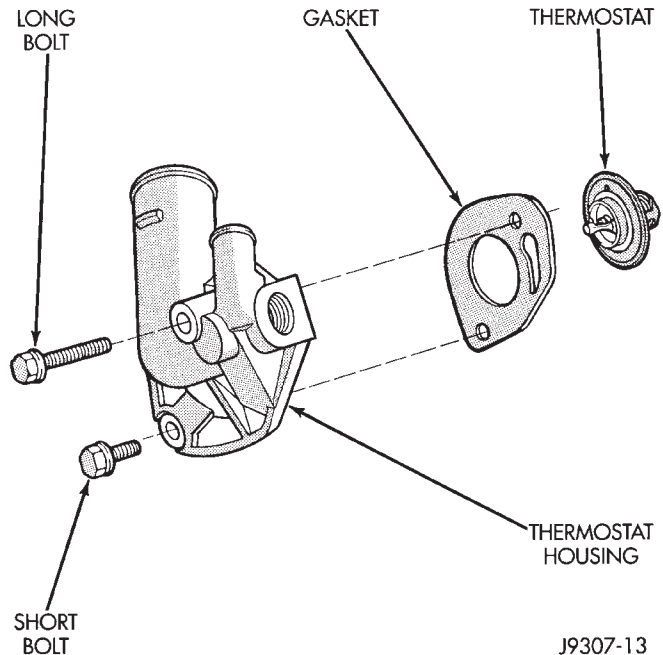

Fig. 23 Thermostat Removal/Installation
(2) Remove radiator upper hose and heater hose at thermostat housing.
(3) Disconnect wiring connector at engine coolant temperature sensor.
(4) Remove thermostat housing mounting bolts, thermostat housing, gasket and thermostat (Fig. 23). Discard old gasket.
(5) Clean the gasket mating surfaces.